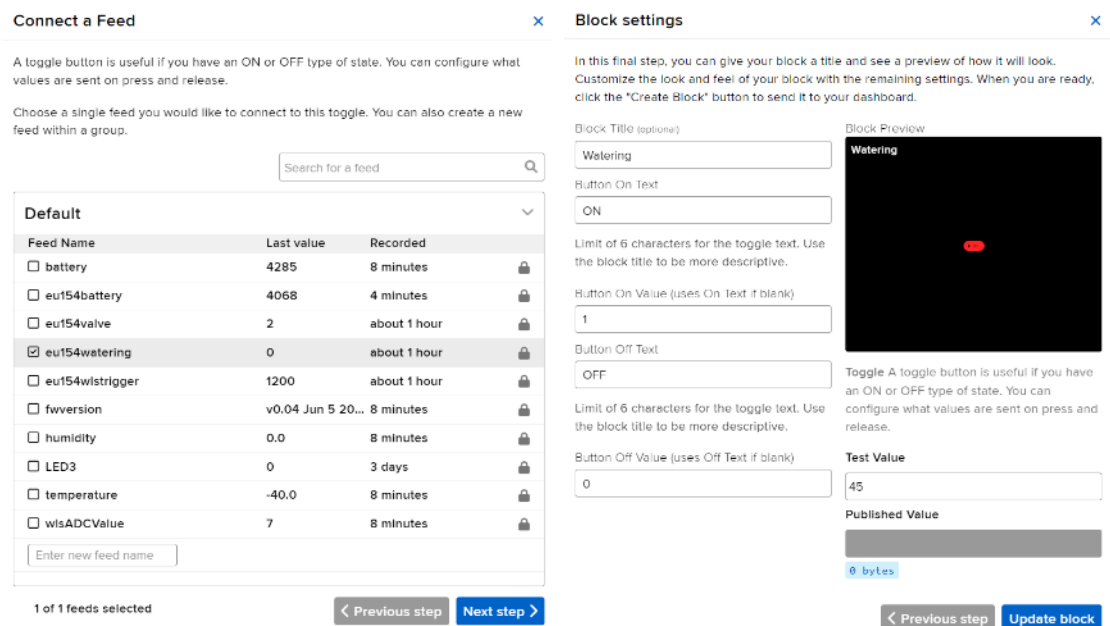

Figure 16. Valve control function selection. Watering or Flooding protection.
All the feeds will be inserted automatically. You should create a new dashboard to control and visualize the EU154-1 device. It could look similar to the one displayed in Figure 16. EU154-1 Control dashboard.
4. EU154-1 solution can be used for watering control or flooding protection. Which feature is used controls eu154watering feed. Simple toggle button associated with eu154watering feed is needed in order to choose this basic function. The feed mentioned before can have two values: “0” for flooding control and “1” for watering as it is shown in Figure 16